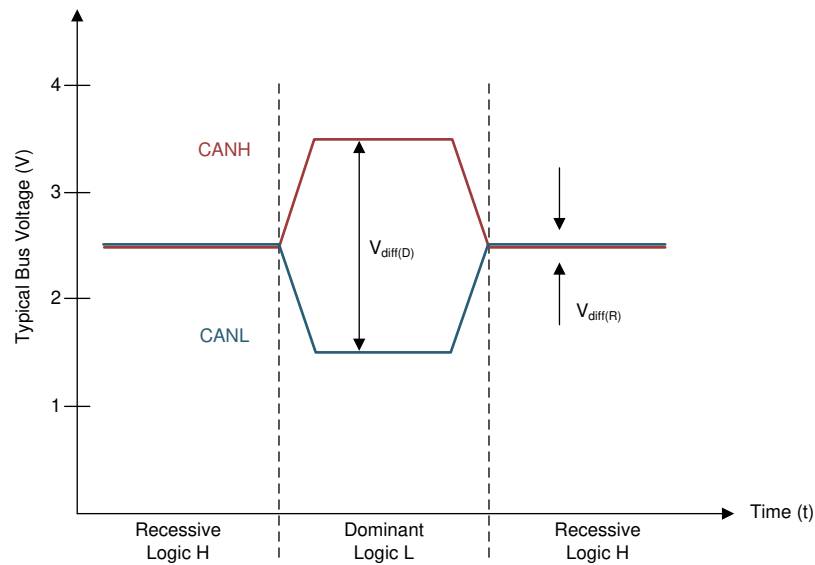
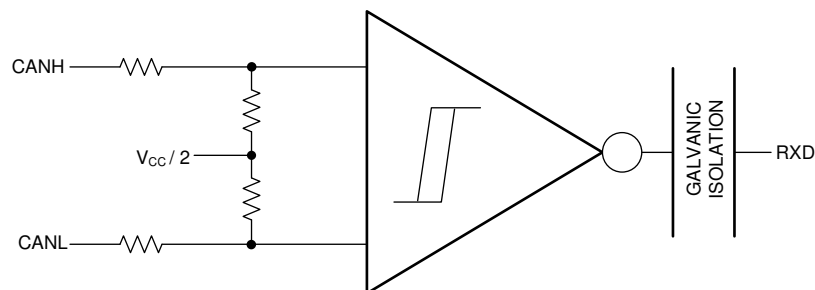

Figure 25. Bus States (Physical Bit Representation)
Figure 26. Simplified Recessive Common Mode Bias and Receiver
The CAN bus has two states during operation: *dominant* and *recessive*. A dominant bus state, equivalent to logic low, is when the bus is driven differentially by a driver. A recessive bus state is when the bus is biased to a common mode of $V_{CC} / 2$ through the high-resistance internal input resistors of the receiver, equivalent to a logic high. The host microprocessor of the CAN node uses the TXD pin to drive the bus and receives data from the bus on the RXD pin. See Figure 25 and Figure 26.
- (1) H = high level, L = low level, Z = common mode (recessive) bias to $V_{CC} / 2$. See Figure 25 and Figure 26 for bus state and common mode bias information.